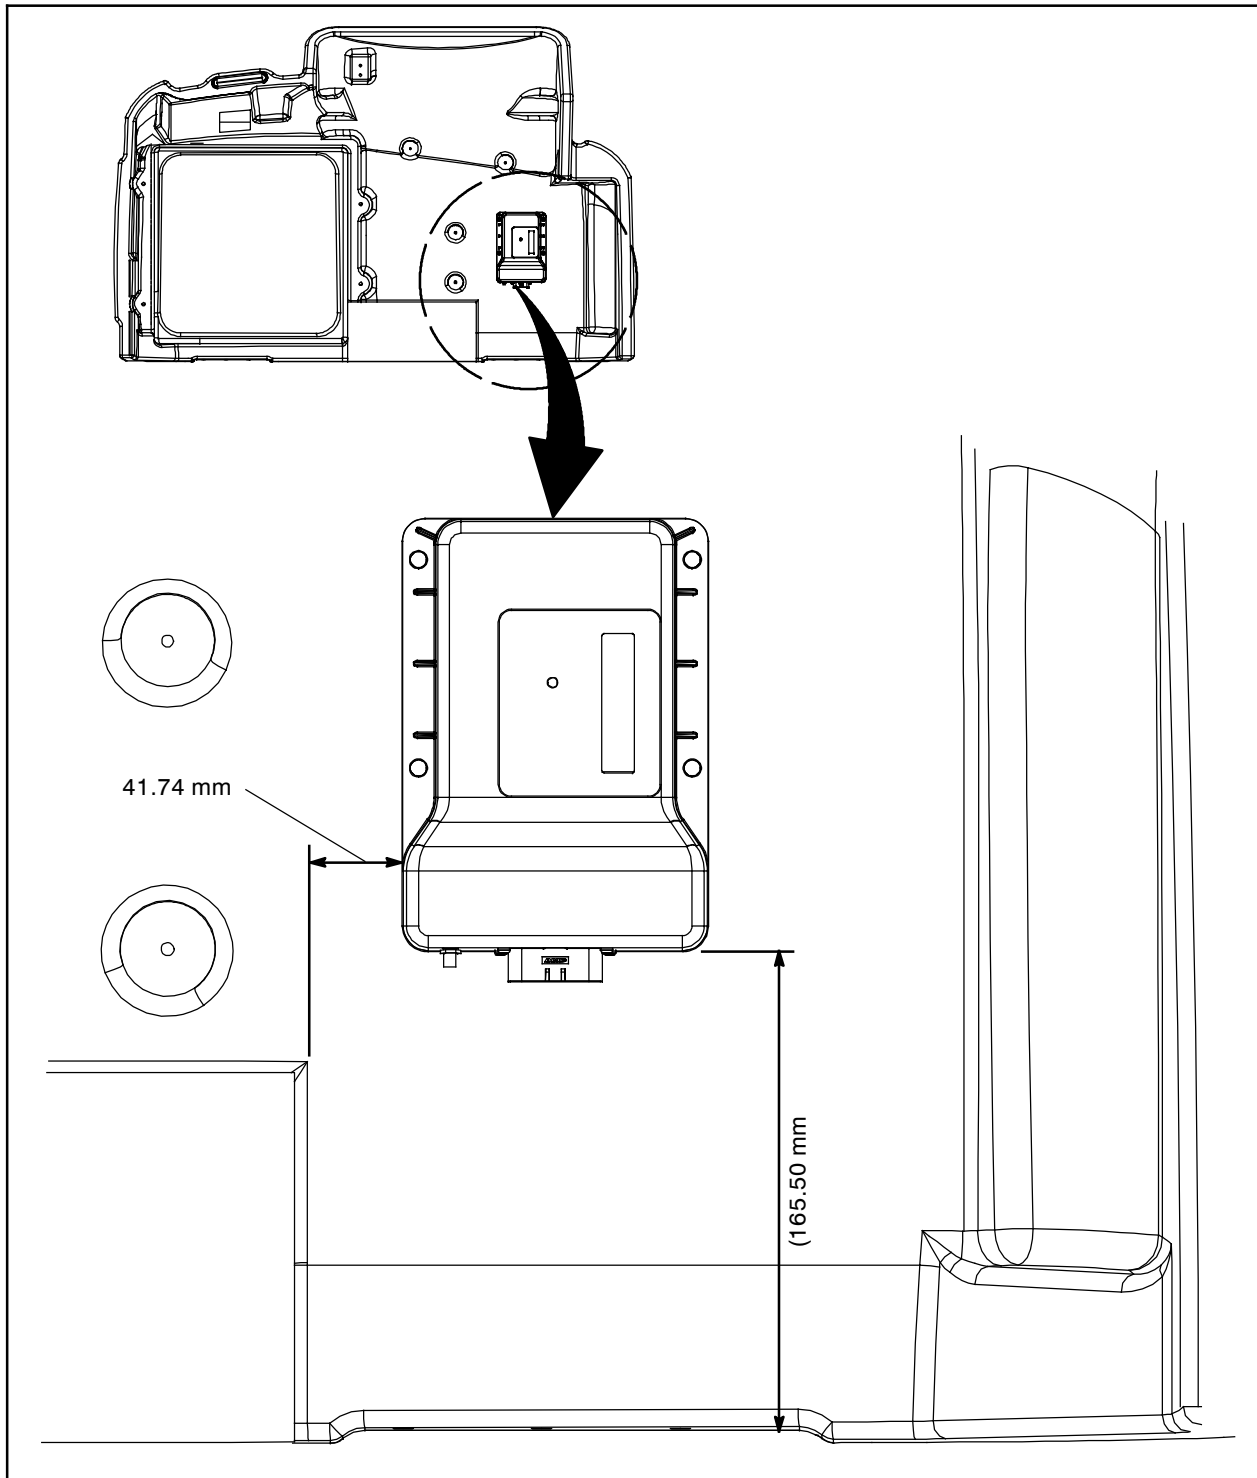

FIG. 2
2. Use the measurements in Fig. 2 to position the telemetry module (1) onto the front shroud and drill a 3.1750 mm hole through each existing hole in telemetry module and the inner surface of the front shroud. **Do Not** drill into the front surface of the front shroud.